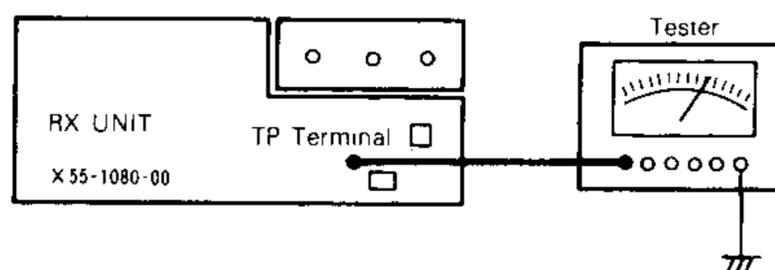

FIG. 17 NB ADJUSTMENT
- Connect a voltmeter (or tester) to the TP terminal on the RX unit (Fig. 17). Set the SSG input to 20 ~ 30dB and then adjust L17 and L18 for minimum reading on the voltmeter. During the adjustment, the AF waveform should be about 1,000Hz.